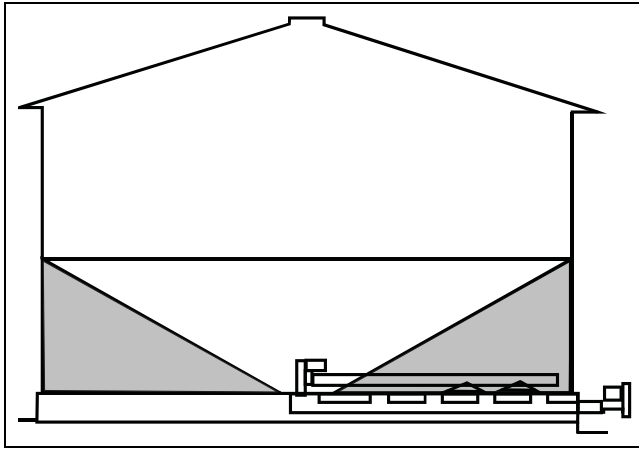
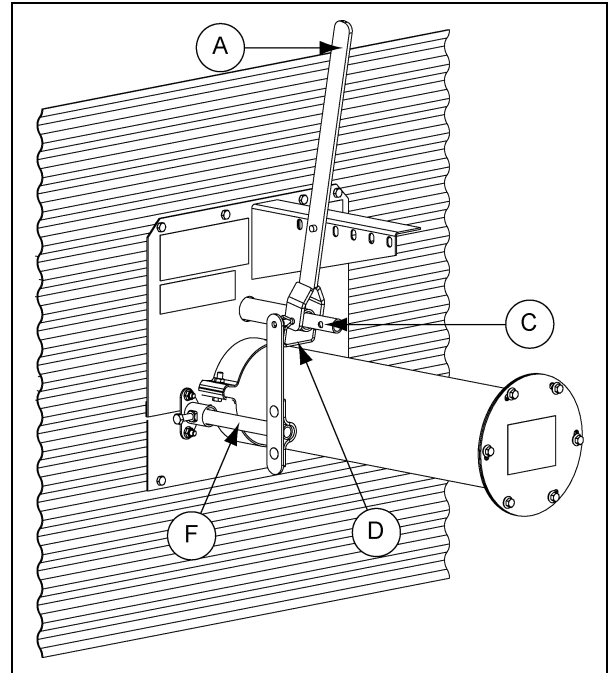

Figure 6B
Figure 6C
5. When grain flow stops from the center well, close the center well gate. Insert the safety snap pin through the control lever and both the intermediate and center well control rods as *Figure 6C*. The remaining grain should look similar to *Figure 6B*.
5. When grain flow stops from the center well, close the center well gate. Insert the intermediate well bolt through the intermediate well control rod and the center well control rod. Remaining grain should look like Figure 6B on Page 47.